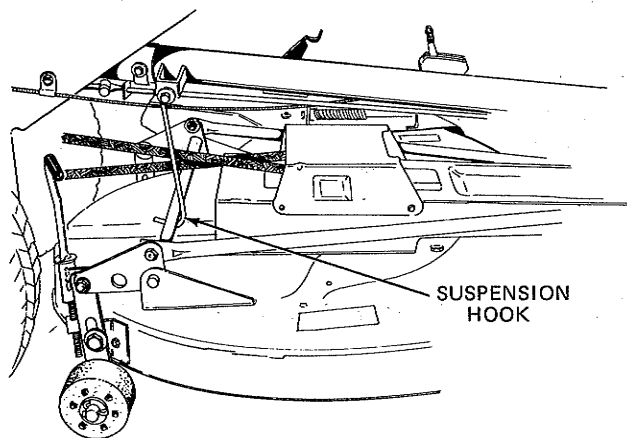

FIGURE 24
2. Disengage the rear mower suspension hook. Pull up on the rear lever crossbar and swing the hook to the rear. (Fig 24)